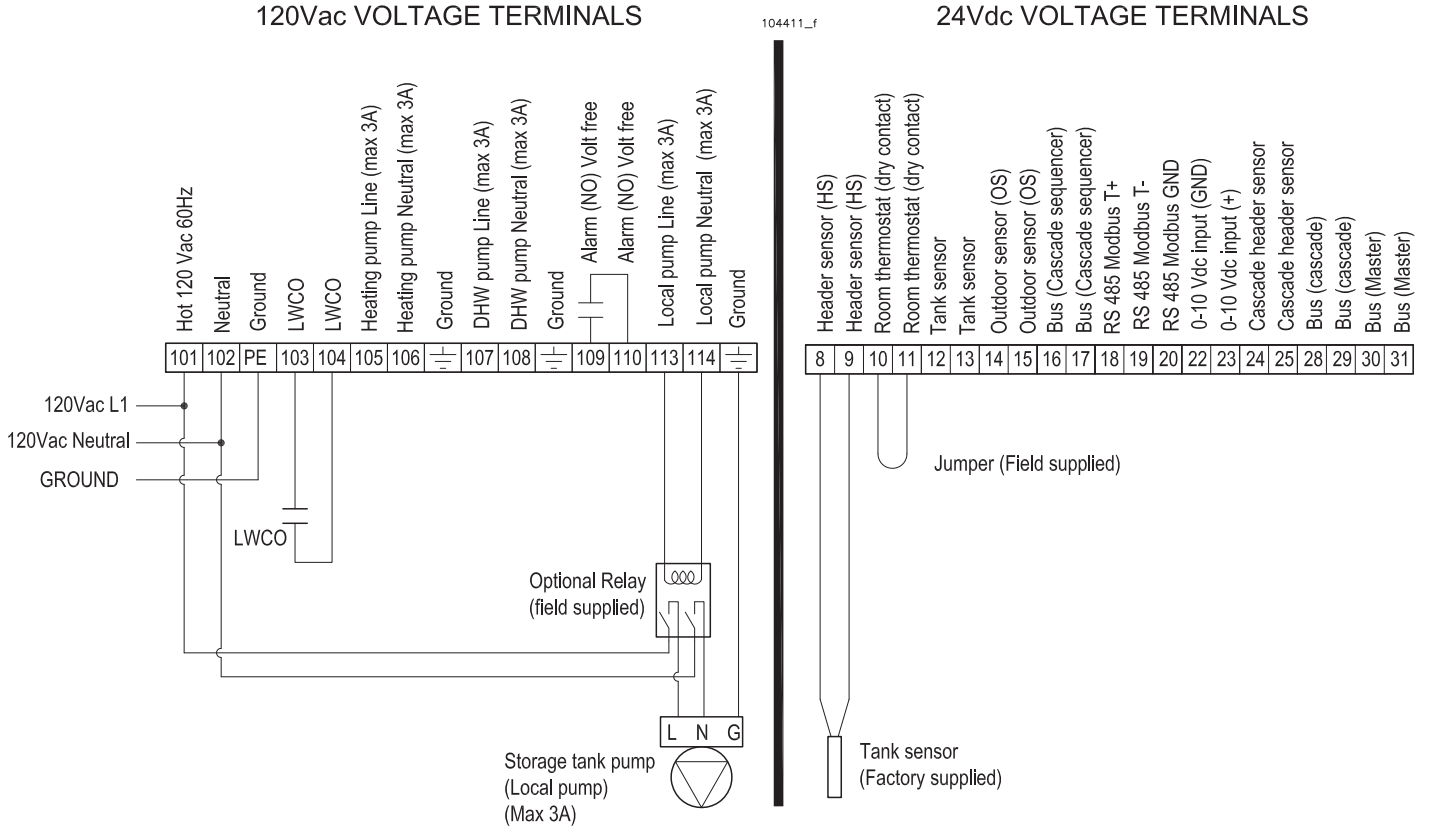

Figure 10-5 Electrical customer connection for IW water heaters
2. The storage tank pump (Local pump) must be connected to terminals “113” and “114” (See Figure 10-5) (a field supplied pump relay must be installed if the pump current draw is greater than 3 amps).
3. Remove header sensor present on terminals “8” and “9” of Figure 10-5;
4. The storage tank temperature sensor must be connected to terminals “8” and “9” (See Figure 10-5). The sensor must be placed into the storage tank in a way that can detect the water temperature (Follow the storage tank instruction).